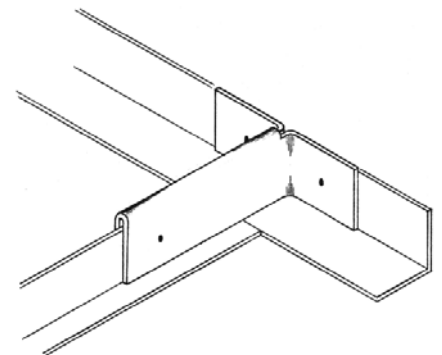

FIG. 3
5. Install wall clips at the starting end of Main Runners. They should rest on top of wall angle, and securely attach to wall to prevent shifting during grid installation. **FIG. 3**